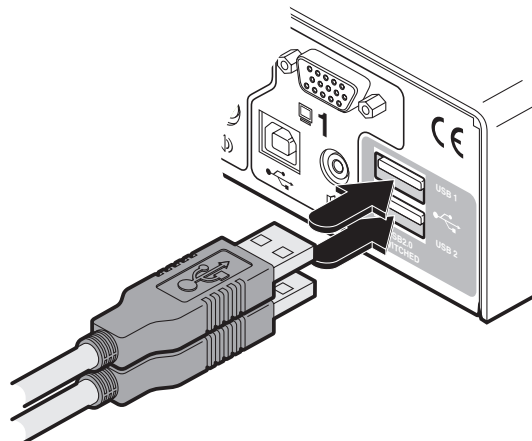

Figure 3-3. Connecting USB peripherals to the user console.
- 3 USB devices: Where required, attach the leads from your USB peripherals to the USB sockets labelled USB1 and USB2. See Figure 3-3.